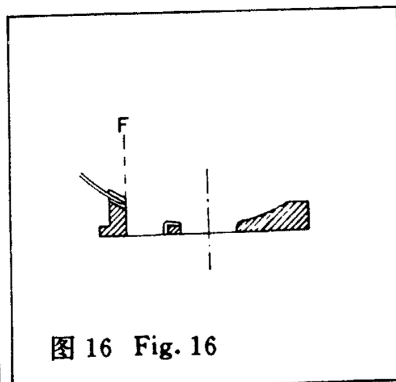

图 16 Fig. 16
(3) 机针左极限位置 机针的左右位置以左极限为基准，要求机针在左极限时，针尖与针板左导针槽的右侧面“F”平齐为机针的标准基准位置(图 16)。
Left limit shall be taken as a frame of reference. When the needle is at the left limit, needle point shall be flush with the right side "F" of the left needle guide groove of needle plate(Fig. 16).